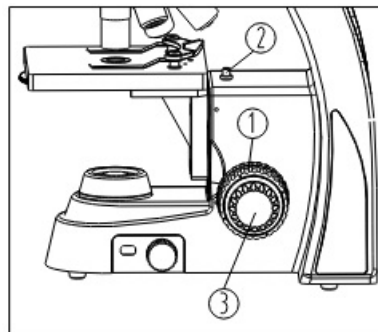

Fig. 9
2. Observe with your left eye and the left eyepiece (binocular and trinocular heads only). Rotate the coarse focusing knob① until the specimen outline appears in the view field (see Fig. 9).
3. Rotate the fine focusing knob③ until clear details are observed.